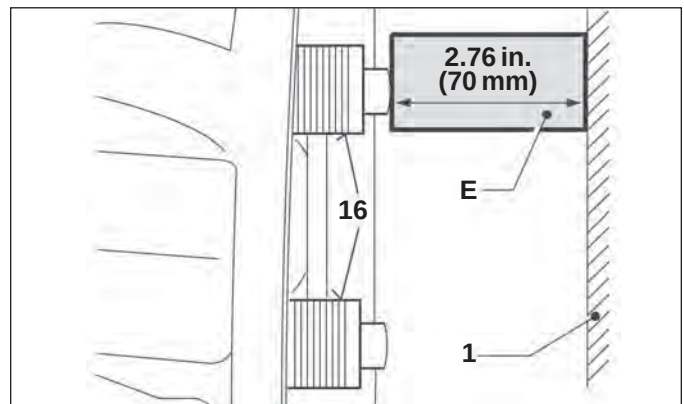

FIGURE 51 - USE OF A SPACER (OFF-VEHICLE INSPECTION)
If the work is being carried out at a workbench, the technician may insert a 2.76 in. (70 mm) spacer (See callout "E" in Figure 51) into the caliper (1) to help avoid the loss of thread engagement.